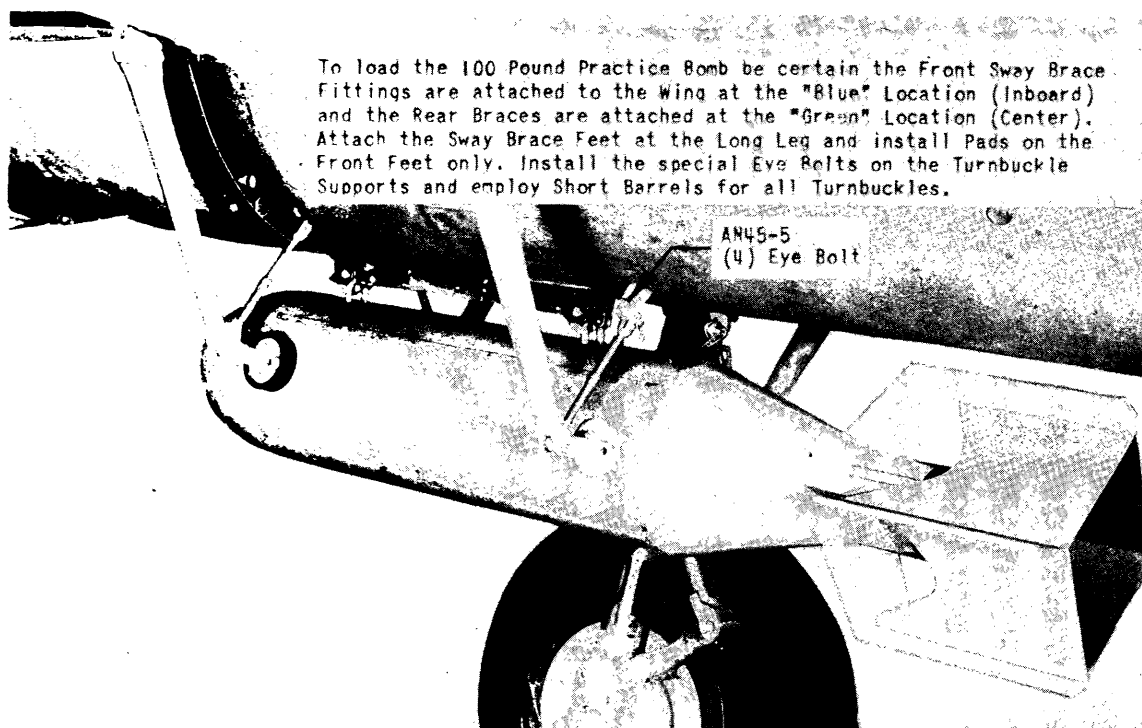

Figure 82 - 100-Pound Practice Bomb Loaded
b. Disconnect the turnbuckles at the clevis bolt and install the special eyebolt extensions, with one nut, to the turnbuckle supports. Attach the turnbuckle clevis ends to the eyebolts as illustrated in figure 82.